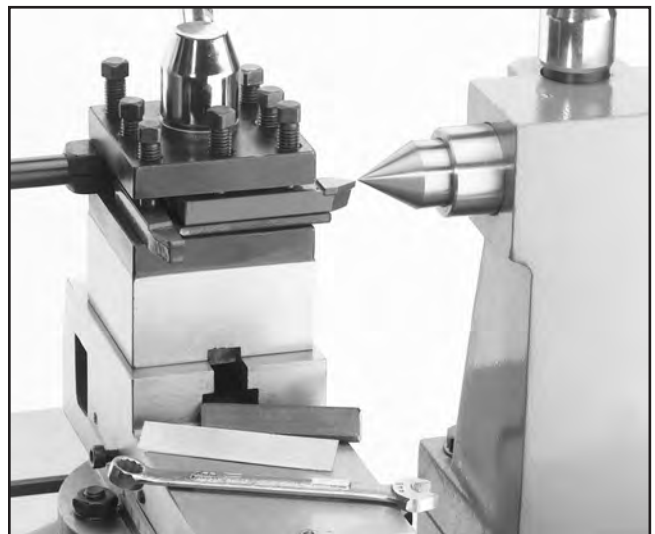

Figure 19. Using a center to check tool bit height.
- Make sure the top of the tool bit is at the lathe spindle center line or just below. The tailstock center can be used as a reference as shown in **Figure 19**.